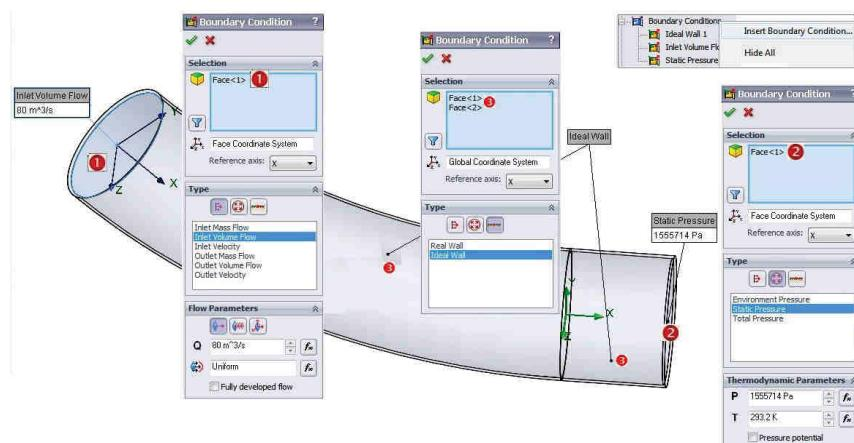

Fig. 13.9
- Click dreapta pe icoana **Boundary Conditions** și selecție **Insert Boundary Conditions**. Va apărea fereastra **Boundary Conditions**, fig. 13.9.
- Right-click the **Boundary Conditions** icon and select **Insert Boundary Conditions**. The **Boundary Conditions** dialog box appears, fig. 13.9.